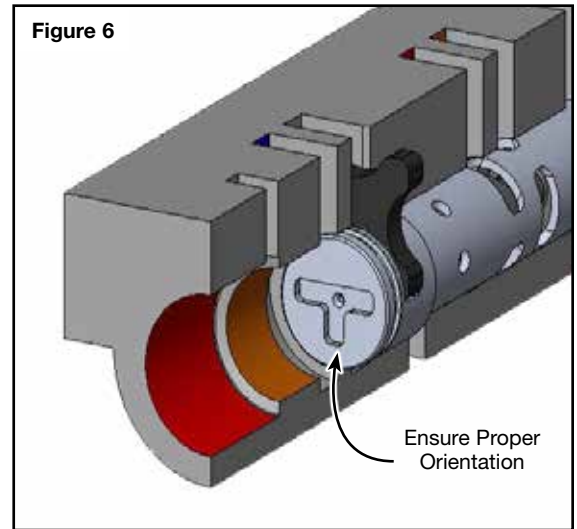

Figure 6
- f. Carefully insert Sonnax O-ringed end plug into the bore just far enough to reinstall the OE retainer. Use a flat-head screwdriver to rotate the end plug so the T-groove resembles an upright capital “T” (**Figure 6**).